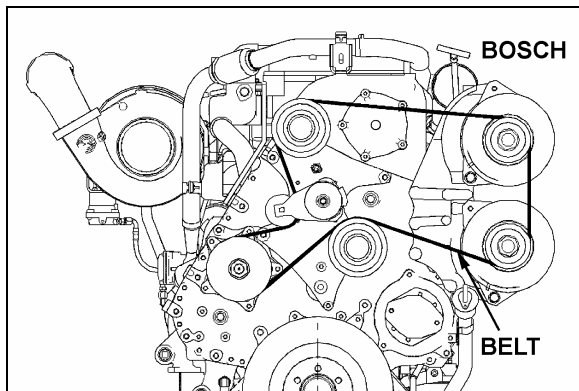

FIGURE 20: ALTERNATOR DRIVE BELT 06509
1. Insert a 3/4" socket drive into the tensioning arm opening (Fig. 20).